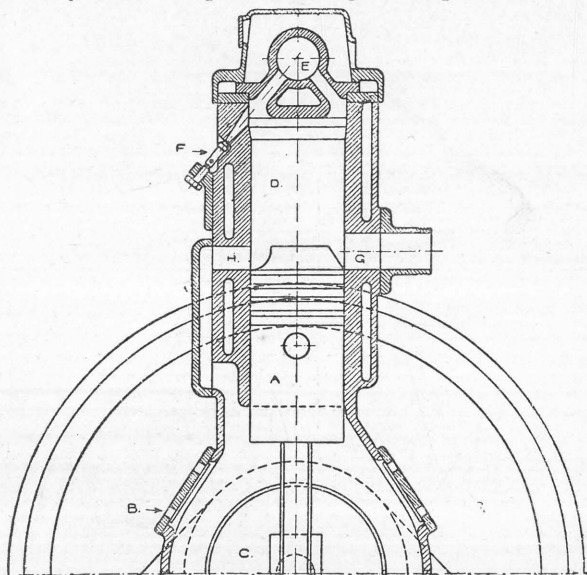

Fig. 8.
Fig. 8 shows a Bolinders two-stroke engine. This motor runs on heavy oil. The piston (A), with baffle plate on top, is shown at the bottom of its stroke, the inlet port (H) and the exhaust port (G) being both open. Air enters the crankcase through holes (B), which are covered with leather "flap valves" (not shown). E is the hot bulb, surrounded by an outer case to prevent loss of heat. F is the delivery end of an oil pump, which sprays oil straight into the hot bulb (E). The oil comes out in a cloud of vapour at the other side of the bulb, and mixes with the air taken in at H. There is no need to describe the pump itself. It is generally a small plunger pump, working in the same way as an ordinary hand bilge pump, only it is made very small indeed, because only a very little oil is needed. Usually the length of stroke, consequently the amount of fuel injected, is controlled by a hit-and-miss type governor.